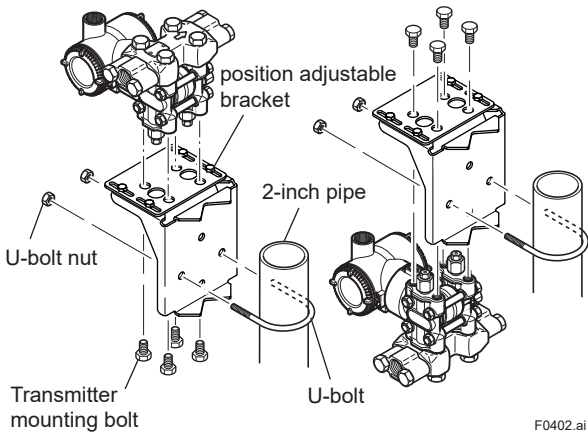

Figure 4.2 Transmitter Mounting (Vertical Impulse Piping Type)
- For the vertical impulse piping type, it is recommended that the manifold be mounted facing up for liquid flow measurement; facing down for gas flow measurement, as shown in Figure 4.2.